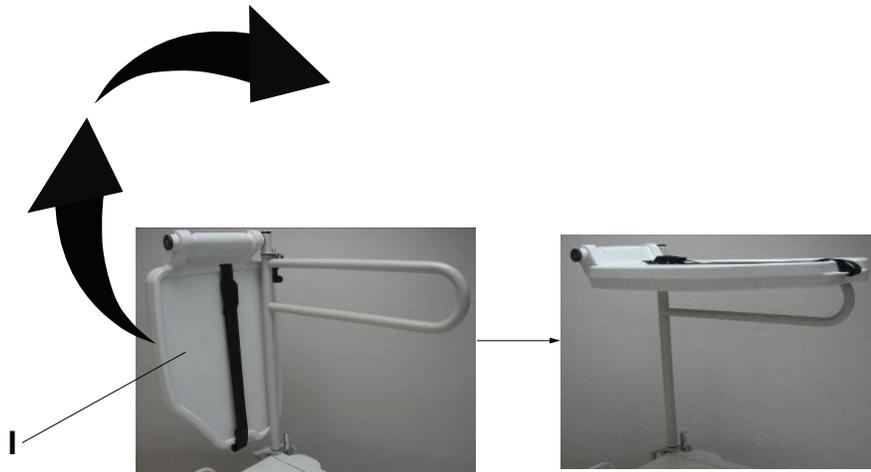

Figure 92: Flipping up the monitor tray
3. Grasp the bottom of the monitor tray and flip it up onto the tray support pole (I) (Figure 92 on page 98).